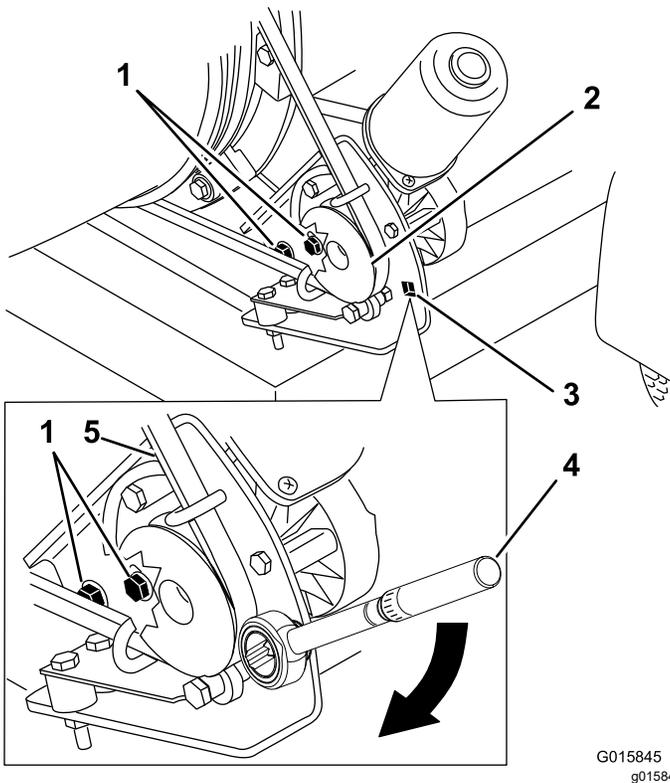

Figure 36
2. Loosen the 2 flange capscrews and 2 flange locknuts securing the motor-mounting bracket to the housing mount of the machine frame (Figure 36).
3. Insert the drive of a torque wrench into the pulley mounting bracket as shown in Figure 36.
4. Pivot the motor-mounting bracket away from the blower nozzle (Figure 36) until the torque wrench reads 22.6 to 26.0 N·m (200 to 230 in-lb).